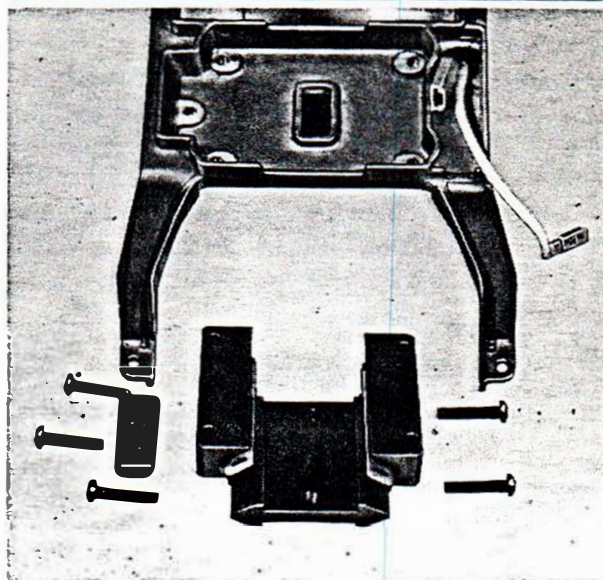

Figure 23. Disassembled View of Slide Bracket Assembly
- A. Refer to Figures 23 and 24. Remove the single phillips head screw from the slide adjusting wedge.
D. Refer to Figures 23 and 24 as needed to assemble. Assembly is as follows: